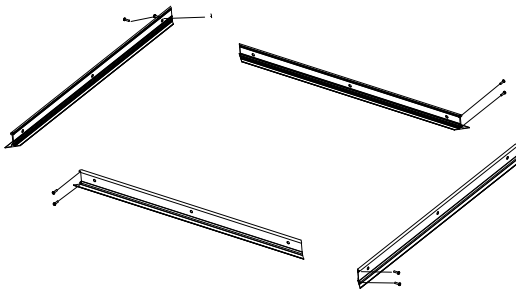

Figure 1
**1** Gently remove the accessories from the package. Assemble the four drywall flange kits using the provided ST3.12 Wafer Head Self Tapping Screws. (Refer to Fig 1).